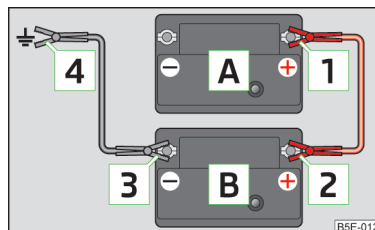

Fig. 203
- Attach clamp **1** to the positive terminal of the discharged battery **A** » Fig. 203.